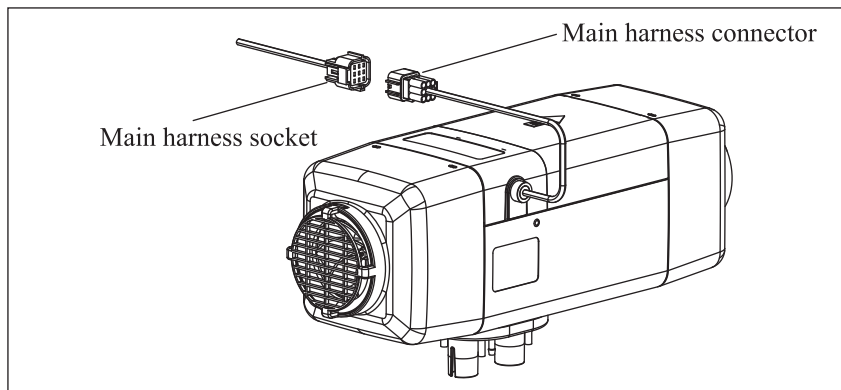
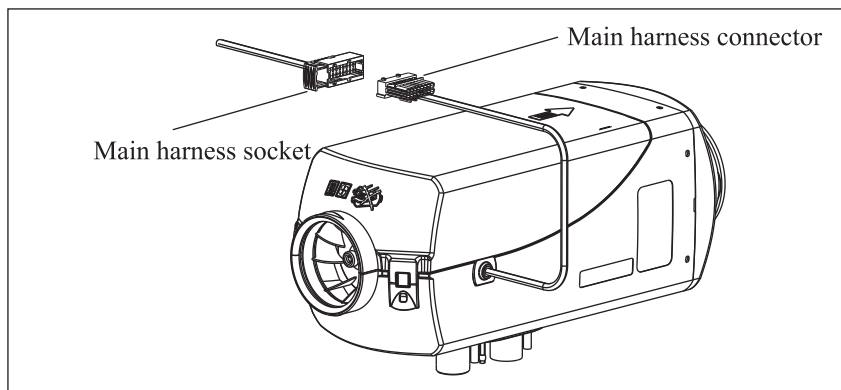

Fig. 21 (W)
Fig. 22 (E)
4.5.1 - Connection diagram of the main wire harness and the heater is as shown in Fig. 21 and Fig. 22. The wires of the main equipment for connection to outside circuits have been made into wire bundles. They can be laid according to the positions of various components and shall be fixed in some proper locations. The distance between two fixing points shall not exceed 300mm. To be noted that any exposed wire bundle out of the vehicle body or out of the wiring groove must be protected by the corrugated pipe.